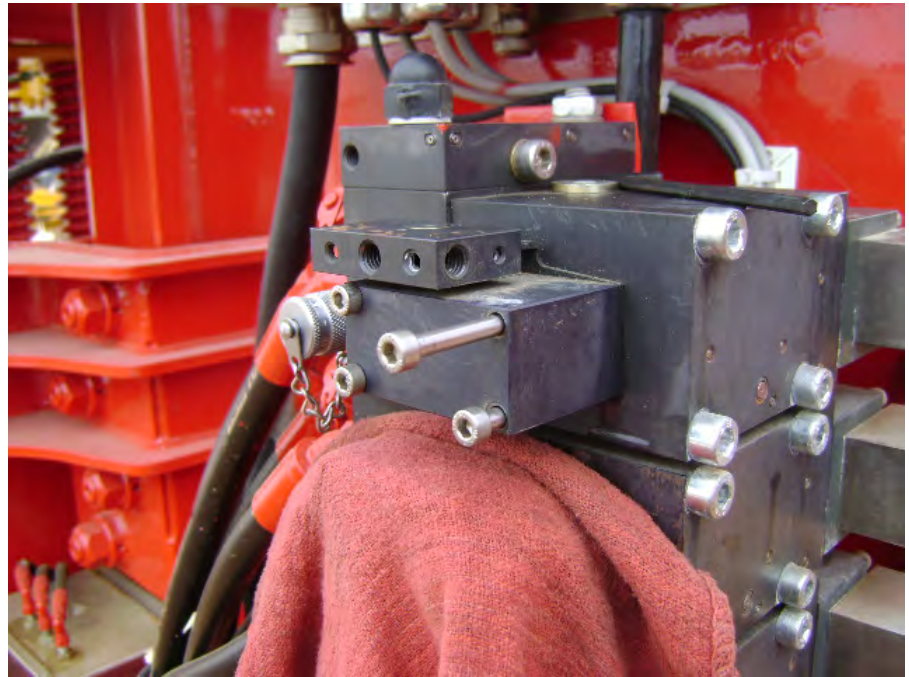

Figure 5
7. Remove the four 4mm x 40mm socket head screws securing the manual actuator to the valve body (Figure 5).